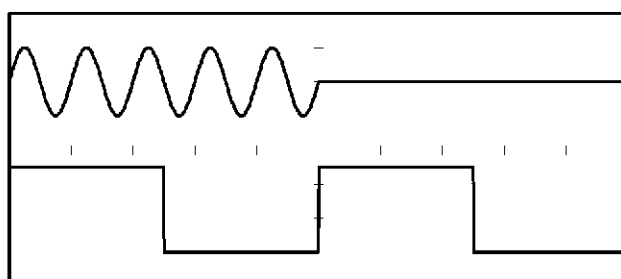

Figure 8-16 Waveform for Gated (edge), Positive
35. Make sure with the oscilloscope that a sine wave signal is output from the rising edge of the trigger signal to the next rising edge, as shown in Figure 8-16.